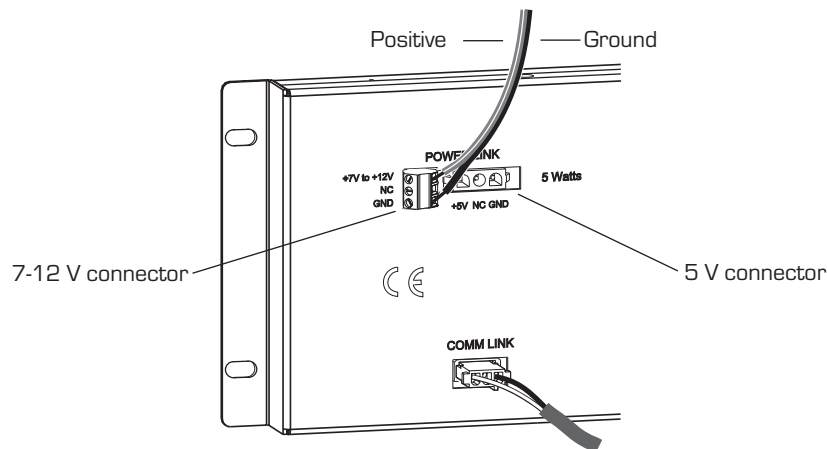

Figure 6: Plug the wired connector back into the panel
2. Connect power wires to the power connector by loosening the top and bottom screws, inserting the wires as show in Figure 6, and tightening the screws.
3. Plug the connector back into the panel (see Figure 6).